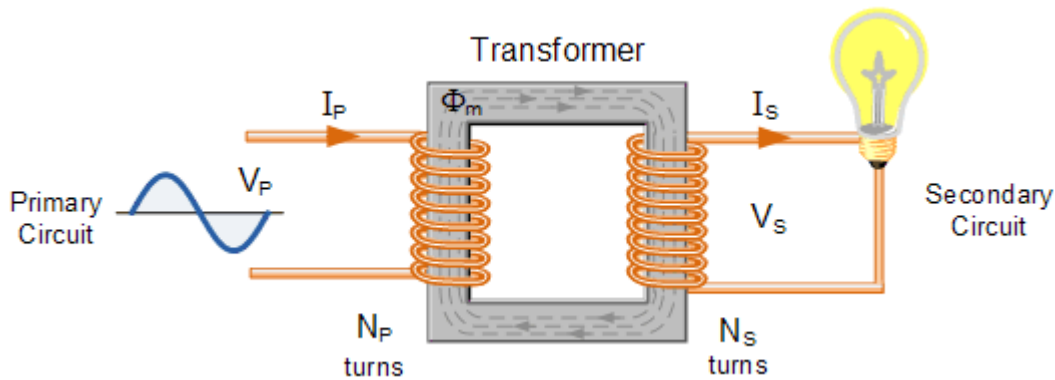

FIG. 1
1. Connections are made as shown in the circuit diagram Fig 1.